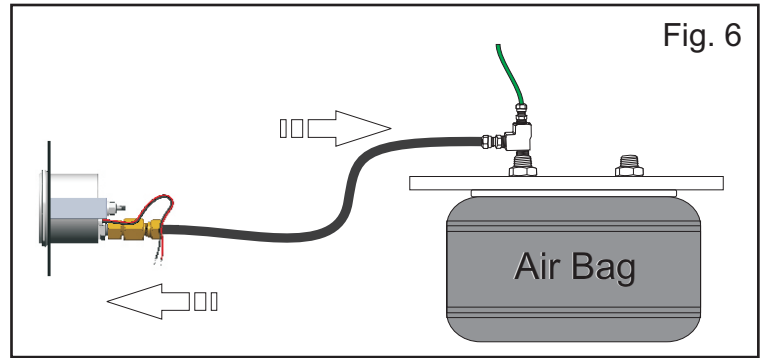

Fig. 6
**Step 6:** Using the appropriate sized fittings and tubing, run a new airline from the Street Tee to the load scale mounted in the dash. (Fig. 6)